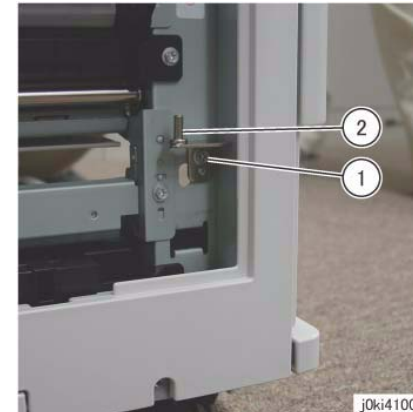

Figure 2 Remove the Bracket Assembly
6. Remove the Bracket Assembly. (Figure 2)